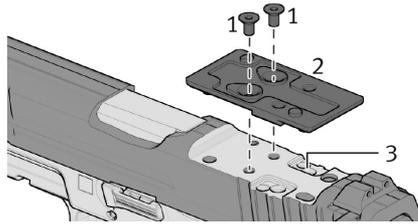

Figure 12 – Loosen screws
5. Tighten screws until the torque is reached (Fig. 12).